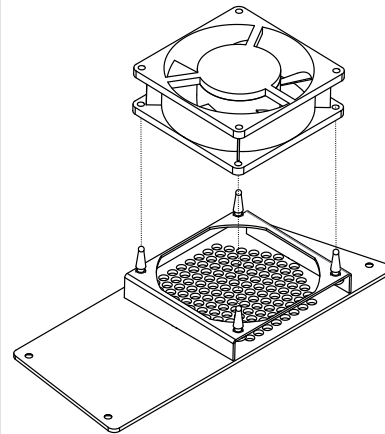
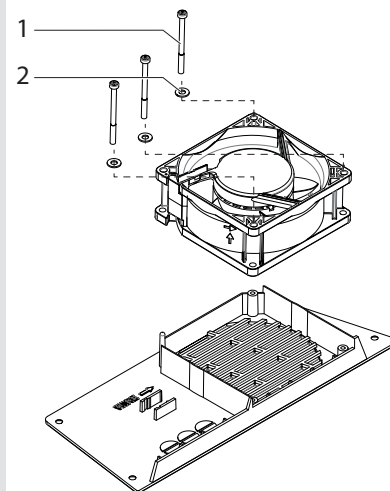

Figure 16: Replacing the fan
Figure 17: Replacing the fan
7. Remove the fan from the side housing cover by pulling it away from the cover or disassemble fan from the side housing cover by the tree assembly screws. (See position 1 & 2 in Figure 17)
1. Insert the replacement fan into the fan holding fixture (Figure 16 or Figure 17 on page 50).
2. Plug in the fan plug or assemble fan with assembly screws. (See position 1 & 2 in Figure 17)